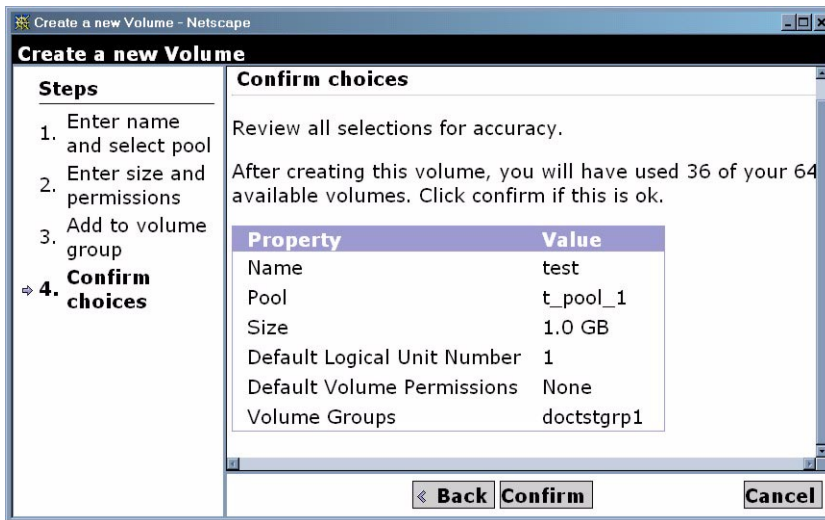

FIGURE 6-24 Confirmation Page for New Volume
13. Click Next and the Confirmation page is displayed as shown in FIGURE 6-24.